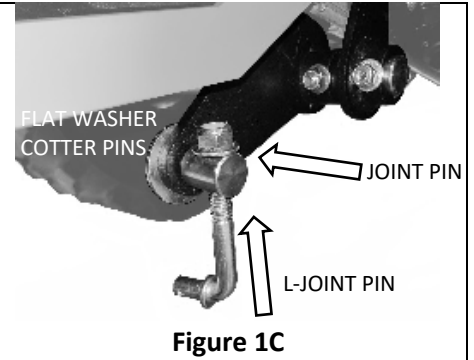

Figure 1C
1. Install the Joint Pin (item 20) and the L-Joint Pin (item 21) to the right and left side Mid Drag Links (figure 1C). Insert the Joint pin to the appropriate hole and use the II Flat Washer and the KK Cotter pins to secure. Insert the L-Joint Pin into the Joint pin as indicated and secure with locking nut GG.